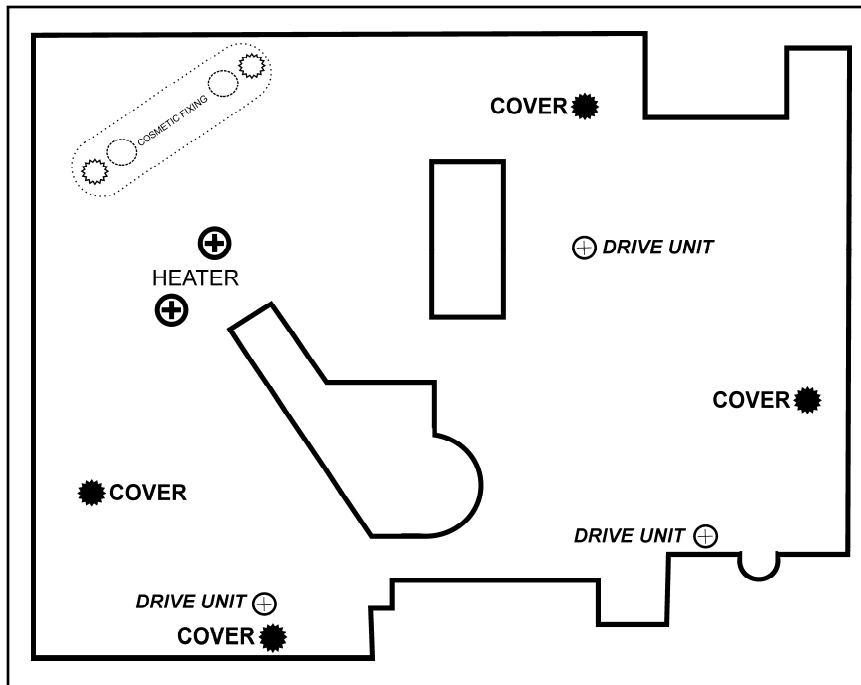

Figure 5-32: Front Plate Assembly with Retaining Screw Locations
16. Refer to Figure 5-32 – Front Plate Assembly with Retaining Screws Locations. Remove the two Hot Water / Coffee Heater Screws; Separate the Heater from its mounting position.
17. Refer to Figure 5-32. Remove the two “Cosmetic Fixing” screws. Remove the Cosmetic Fixing from inside the appliance.
24. Remove all remaining screws from the Front Plate Assembly. Lift upward on the Front Plate Assembly to access the screws near the bottom of the plate. Use Figure 5-32 to locate all screws.